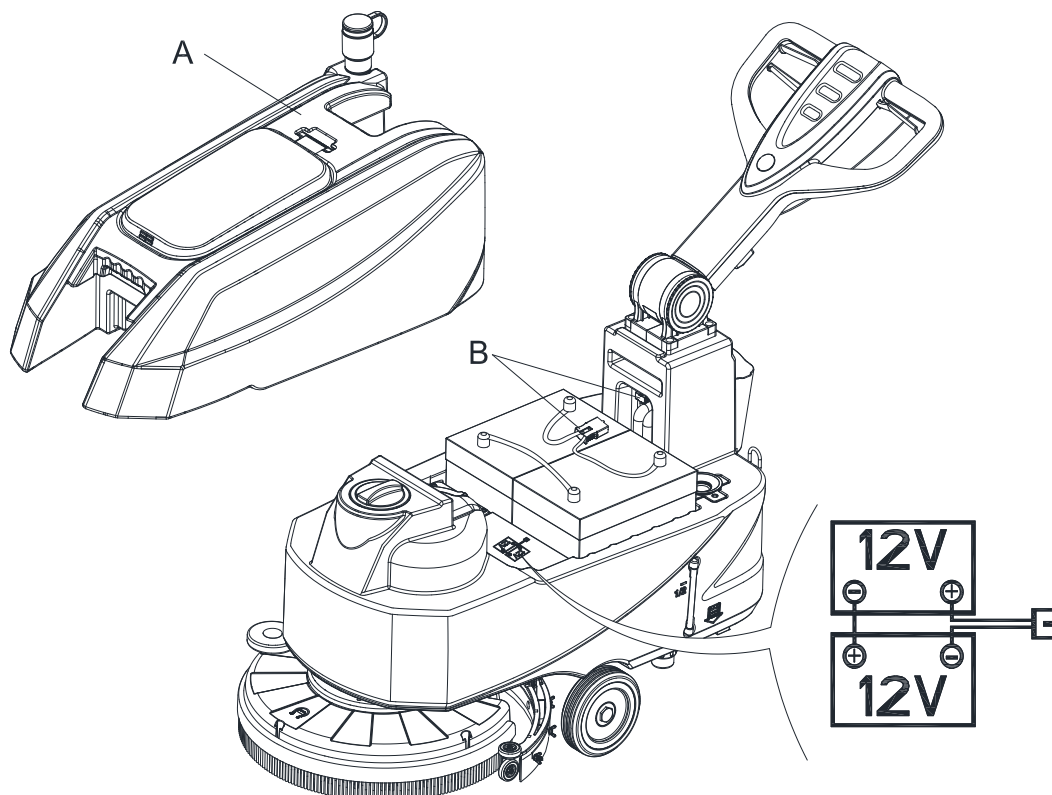

Figure 3
The machine requires two 12 V batteries, connected according to the diagram (Figure3).
1. Check that the batteries are connected to the machine with the connector (B, Figure 3).
5. Move the recovery tank kit (A, Figure 3) carefully.
7. Route and install the battery cable as shown in (Figure3), then carefully tighten the nut on each battery terminal.
8. Place the protection cap on each terminal, then connect the battery connector (B, Figure 3).
9. Carefully put it back the recovery tank kit (A, Figure 3).